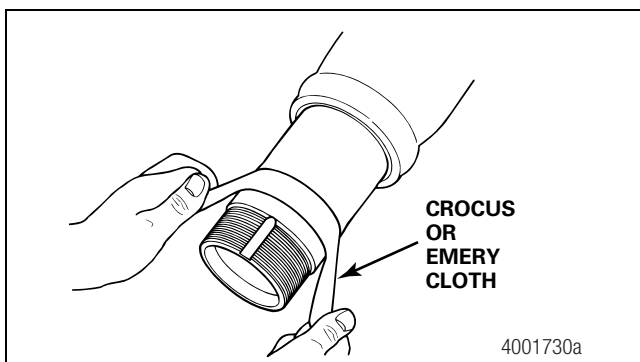

Figure 4.21
- Check the axle spindle and hub bore for scratches, nicks or marks. Repair them with a crocus or emery cloth. Figure 4.21.